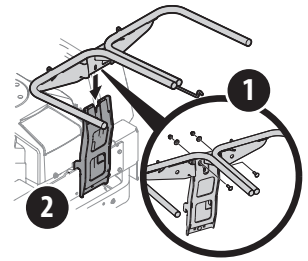

Figure 5
1. Install and secure the hanger assembly (1) onto the vertical support bracket (2) using two carriage bolts (710-0276), two cup washers (736-0242) and two flange lock nuts (712-04063) from hardware pack 689-02200. See Figure 5.